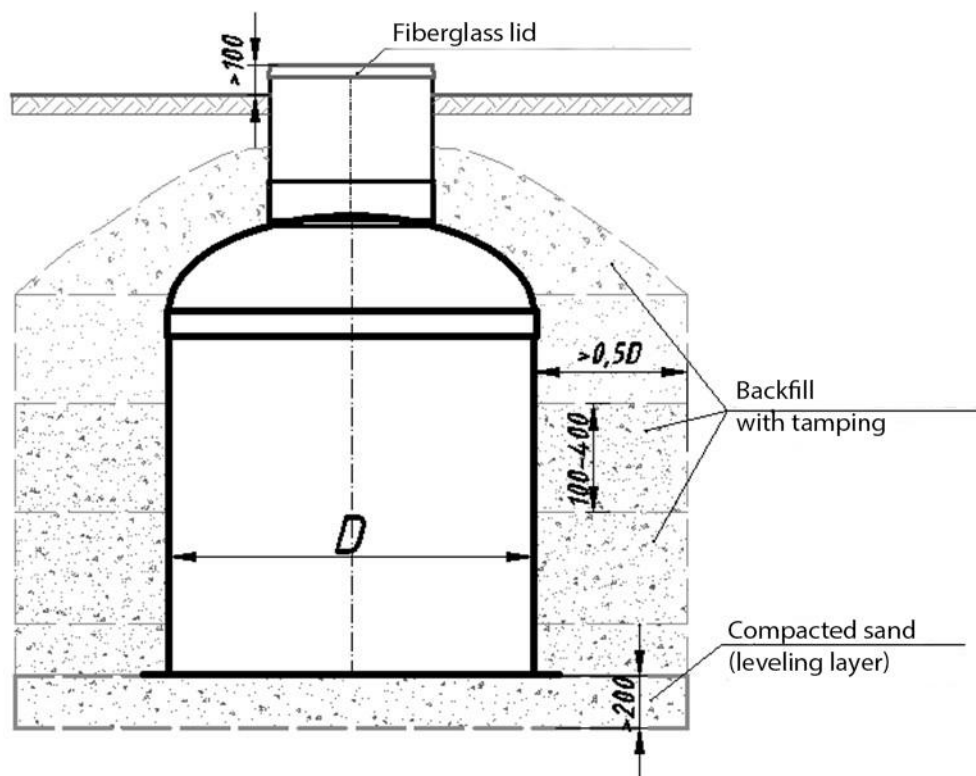

Fig.2 Installation diagram of the vertical body with low groundwater level
- **absence of groundwater:** the pit is developed 100 mm below the bottom mark of the product. At the bottom of the pit, a 100 mm high cushioning/levelling layer of sand is added and compacted (see Fig. 2).